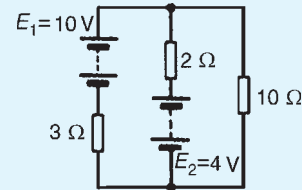
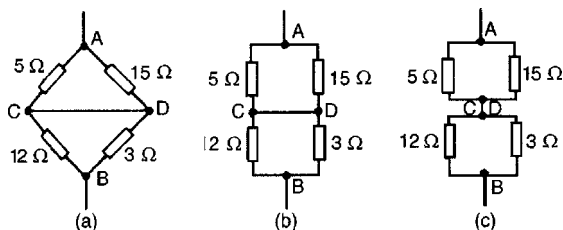

Figure 13.27
Figure 13.35
3. Use the superposition theorem to find the current in each branch of the network shown in Fig. 13.27
- (viii) In Fig. 13.35(a), to find the equivalent resistance across AB the circuit may be redrawn as in Figs. 13.35(b) and (c). From Fig. 13.27(c), the equivalent resistance across AB